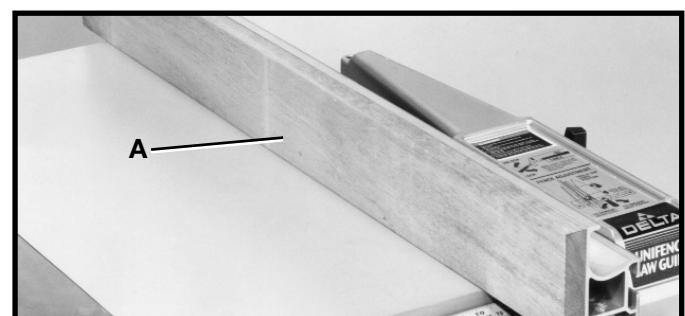

Fig. 58
When performing special cutting operations – and that operation may cause the cutting implement to contact the fence – it is necessary to add a wood facing (A) Fig. 58, to one side of the rip fence as shown. The wood facing is attached to the fence with wood screws through holes drilled in the fence.  $3/4$ -inch stock is suitable for most work, although an occasional job may require one-inch facing.